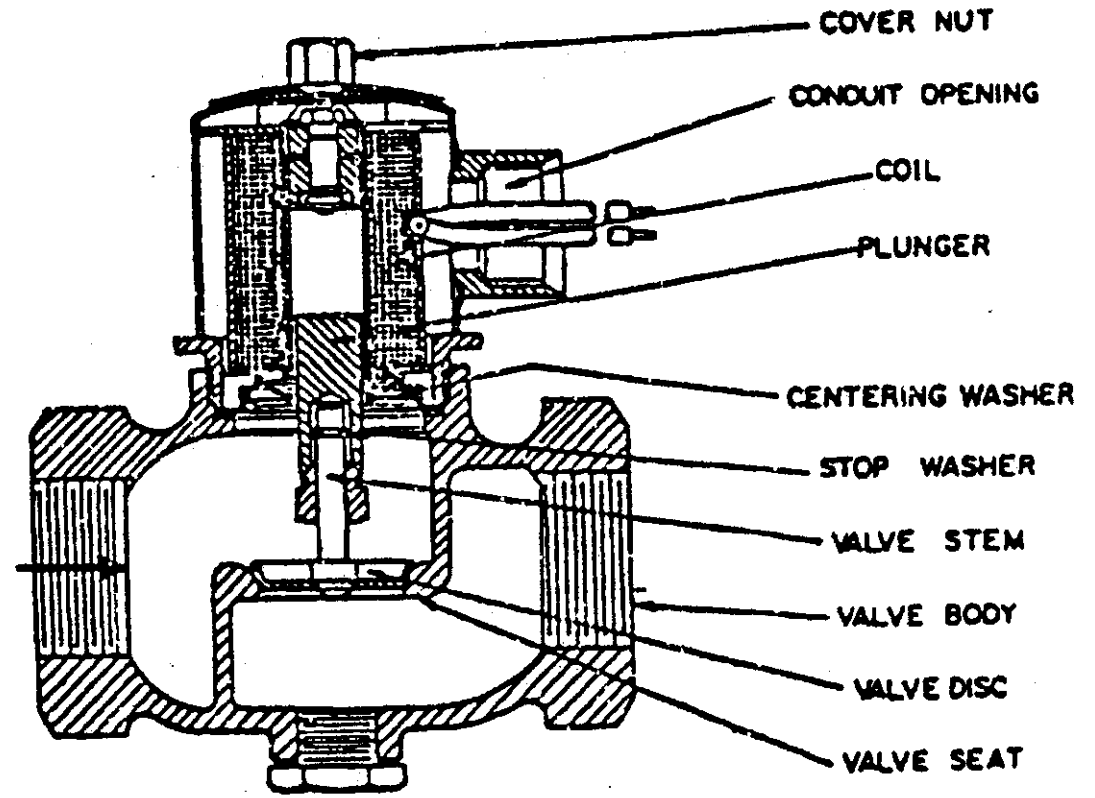

Figure 27: A Two-Way Solenoid Valve.
- In a two-way solenoid valve (shown in Figure 27), the valve is open when the solenoid coil is energized.